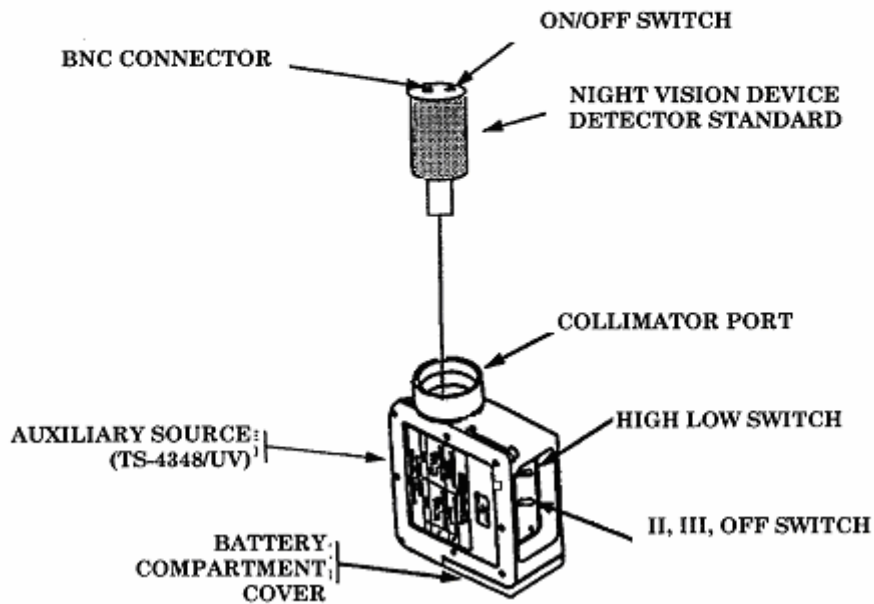

Figure 2. TS-4348/UV controls.
(1) Connect multimeter **INPUT HI** and **LO** to night vision device detector standard **BNC CONNECTOR** (fig. 2.)
(2) Install night vision device detector standard into TI COLLIMATOR PORT (fig. 2).
(3) Turn night vision device detector standard power ON/OFF SWITCH (fig. 2) to ON and allow night vision detector standard to warm-up 15 minutes.
(4) Set TI **II, III, OFF** switch to **II**. Power indicator will illuminate.